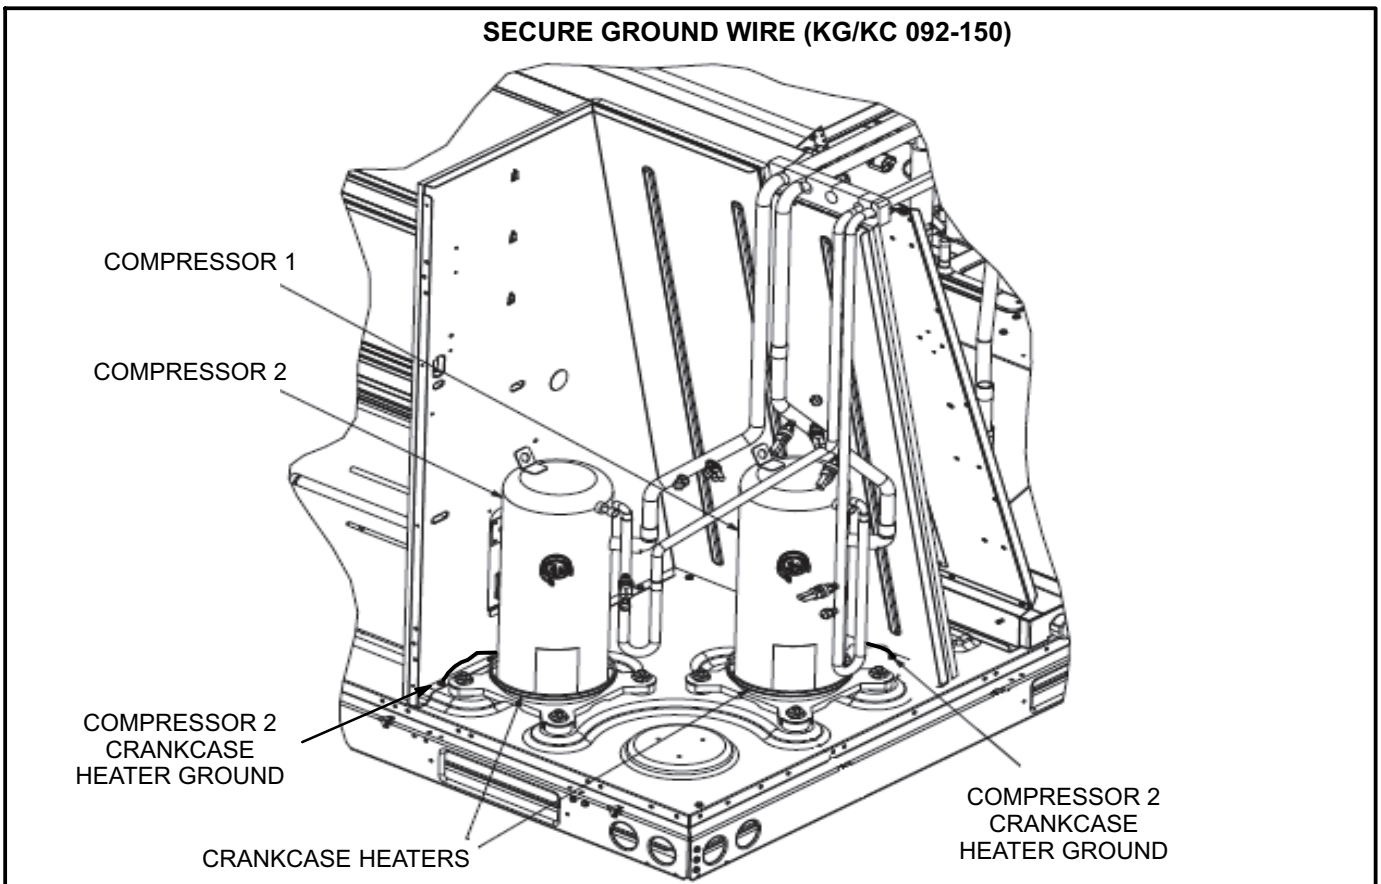

FIGURE 4
- 5- Secure crankcase heater ground wires using screws and washers provided in kit. See figure 4.